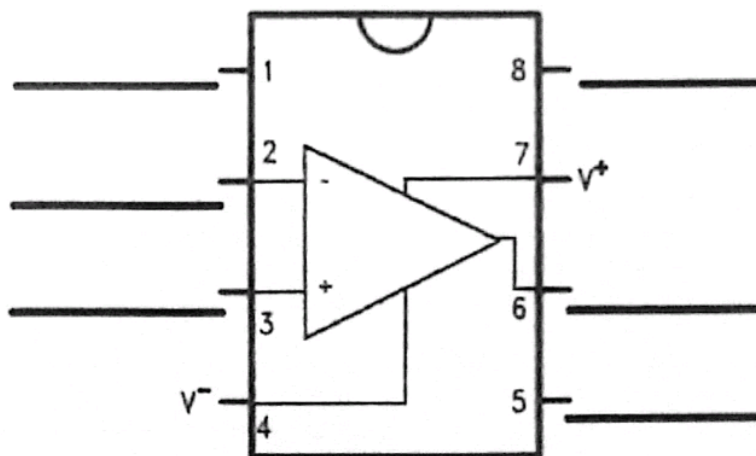

Figure 2.1: LM 741 Pinout Diagram
- Q2. Read the datasheet of LM 741¹, and label the pin numbers in Figure 2.1. What do you understand by V^+ and V^- pins? State your answer in a sentence.